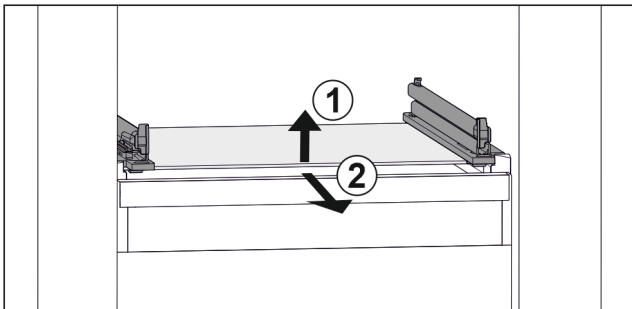

Fig. 47 Example illustration of glass shelf
- ▶ Lift glass shelf at the front. Fig. 47 (1)
- ▶ Take out glass shelf to the front. Fig. 47 (2)